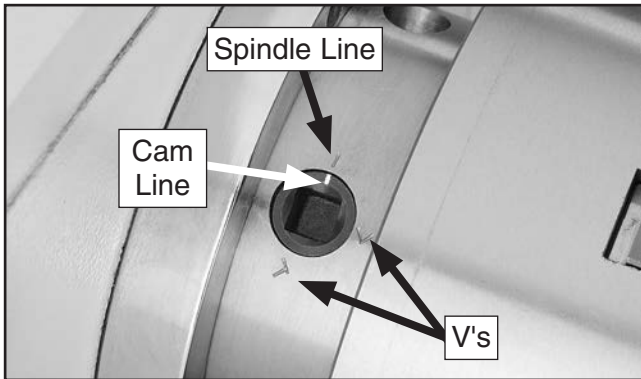

Figure 21. Indicator arrows.
3. Loosen the cam-locks by turning the key counterclockwise approximately one-third of a turn until the mark on the cam-lock aligns with the single mark on the spindle nose in **Figure 21**. If the cam-lock stud does not freely release from the cam-lock, wiggle the cam-lock until the cam-lock stud releases.